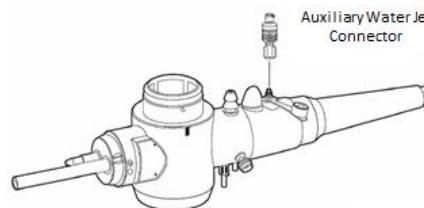

Figure 2
17. Attach the auxiliary water jet connector to the auxiliary water port by screwing it onto the port (See figure 2). When attaching the auxiliary water jet connector to the port, take care to ensure that the auxiliary water jet connector is aligned to the port and avoid excessive tightening. Misalignment or excessive tightening of the auxiliary water jet connector could lead to the possibility of leakage. Once the auxiliary water jet connector is attached to the auxiliary port of the endoscope, attach the irrigation tubing to the auxiliary water jet connector.